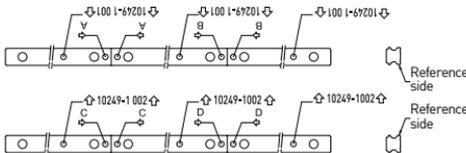
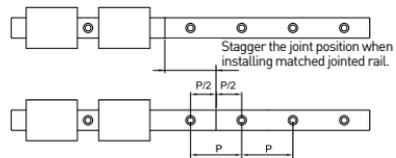

Figure 3
Figure 4
4. Butt-joint rail : Butt-joint rail should be installed by following the arrow sign and ordinal number which is marked on the surface of each rail as shown in the figure 3. To avoid accuracy problems due to discrepancies between the 2 rails such as for matched pair, butt-joint rails, the jointed positions should be staggered as shown in figure 4.